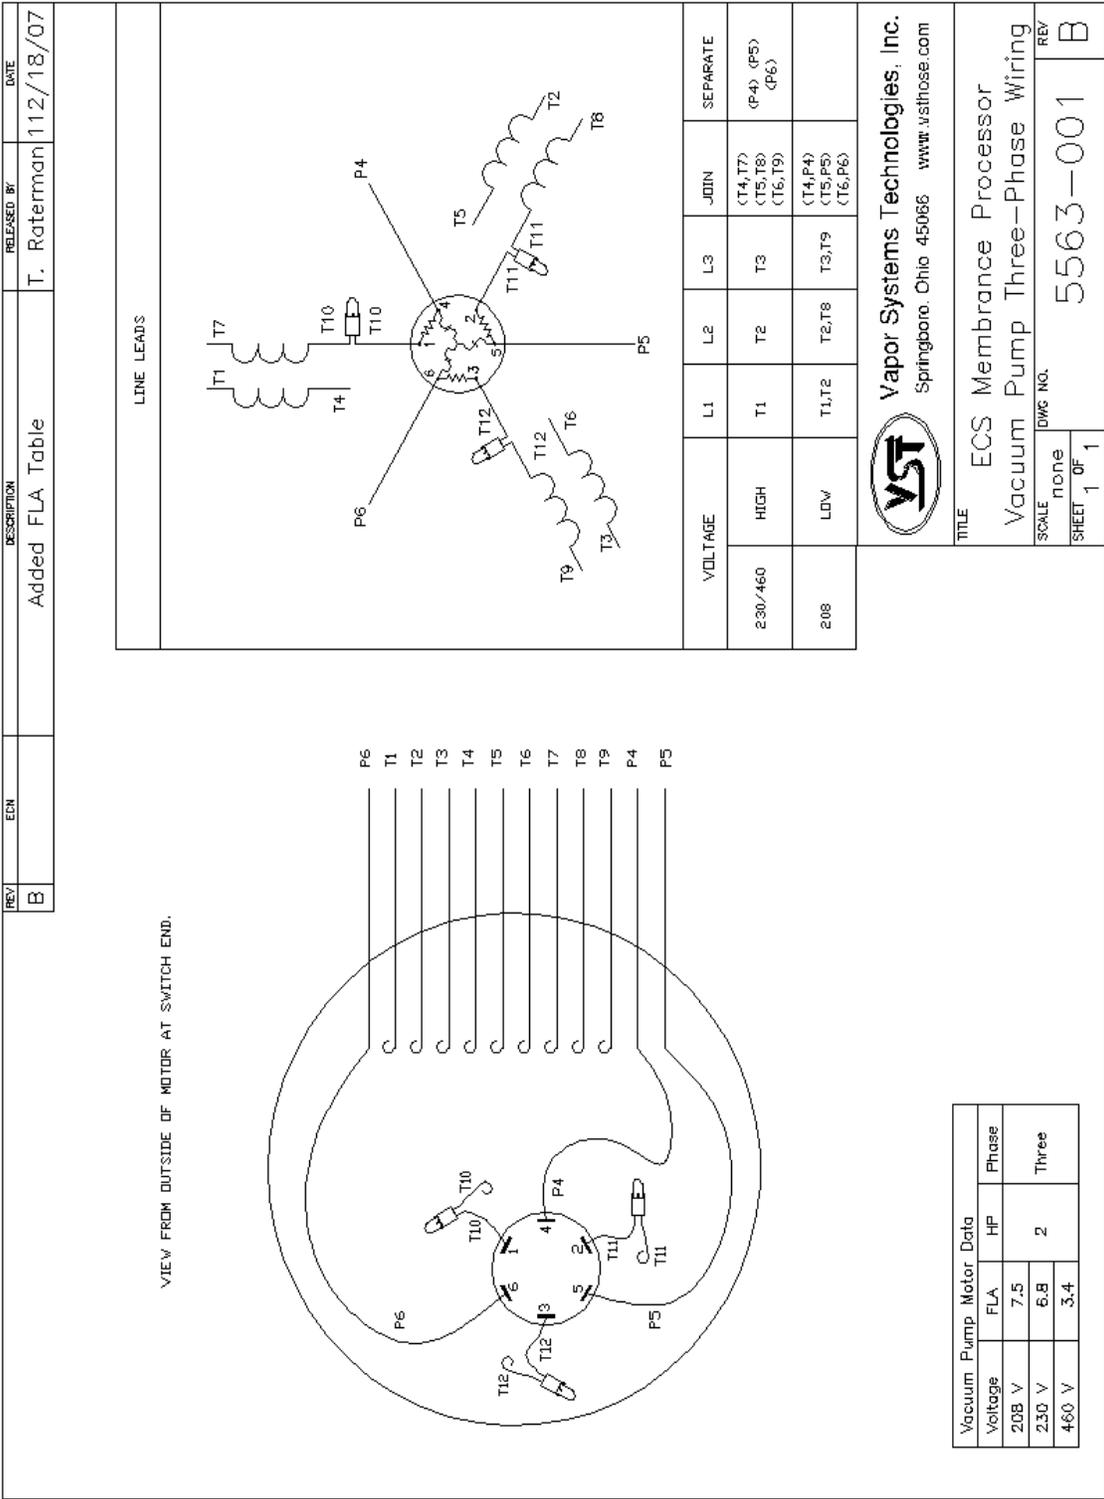

Figure 15: Vacuum Pump: Three-Phase Motor Wiring Diagram
- ▶ **See Figure 15 and Figure 17.**